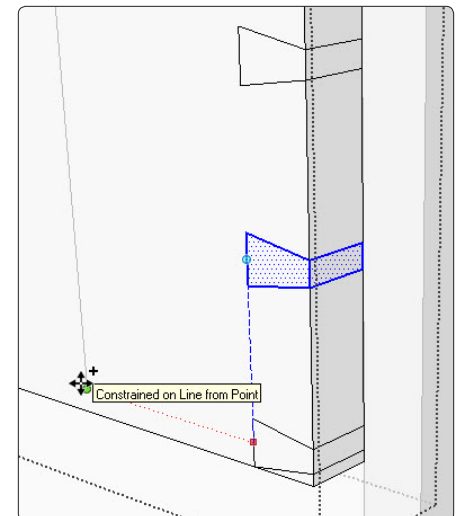
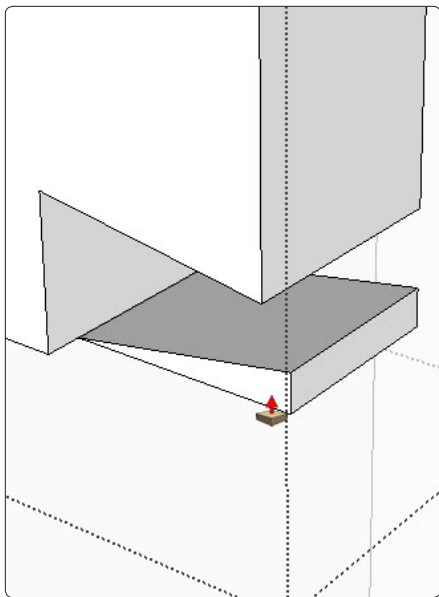

Figure 28. Place additional copies so that their midpoints fall on the other divisions of the divided line.
Figure 29. Push out the waste, including the little sliver at the bottom.
Step 8 Continue placing copies at each of the line division points. The final pin placement is made at the endpoint of the divided line, as shown in Figure 28. The bottom pin is a half-pin, which requires some cleanup. Use the Push/Pull Tool to push out the pin shape and the small waste wedge, as shown in Figure 29.